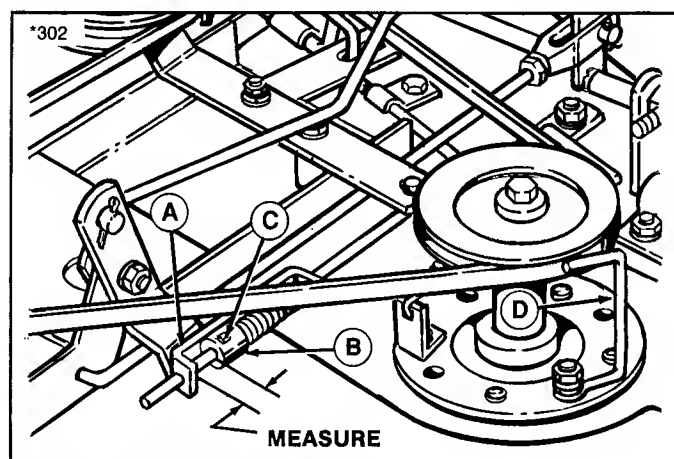
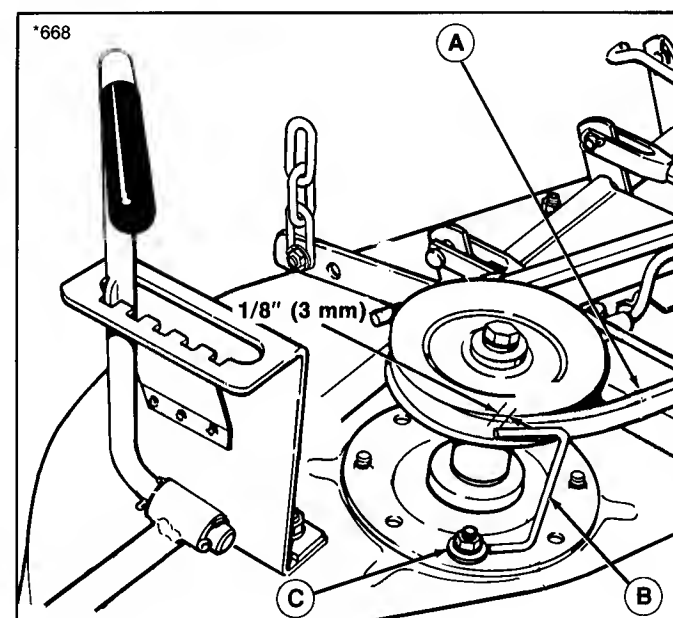

Figure 34. Drive Belt Tension
Figure 35. Right Arbor Belt Stop
Using the mower lift lever, lower the mower. Using the height control lever, place the mower in highest cutting position. Place the PTO lever in engaged position. The gap between the rod guide (A, figure 34) and the set collar (B) should measure 3/8 to 1/2 inch (10 to 13 mm). If not, disengage the PTO. Loosen the setscrew (C). Move the rod forward to increase the gap or back to decrease the gap then tighten the setscrew. Engage the PTO and recheck the adjustment. Readjust if necessary.
The arbor belt stops are item D in figure 34 and item B in figure 35. There should be 1/8 inch (3 mm) clearance between the belt stops and belt when the PTO lever is engaged. If not, loosen the nut, move the belt stop and retighten the nut.